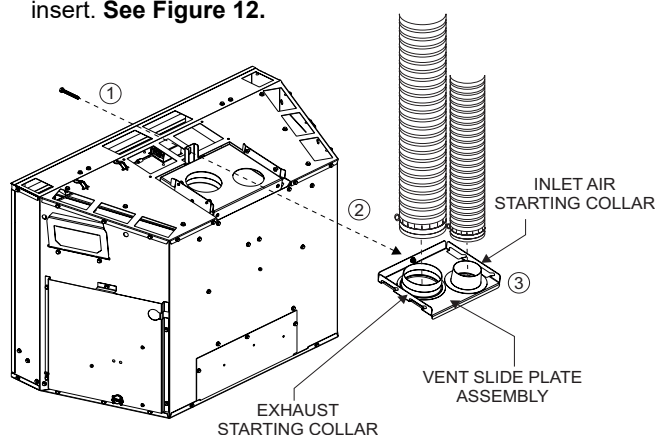

Figure 12
9. If necessary, remove the 2 hex screws from the vent slide plate assembly. Remove the slide plate from the top of the insert. **See Figure 12.**